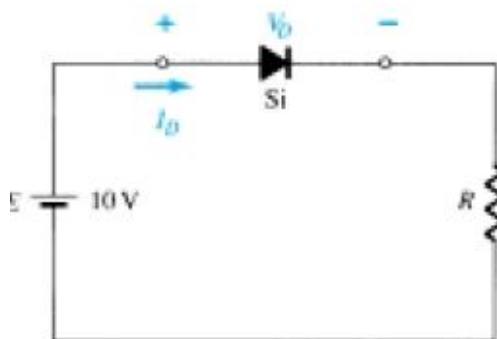

Figure 1
2. For the series diode configuration shown in figure 1 employing the diode characteristics of Figure 2. Determine: (a) V_{DQ} and I_{DQ} . (b) V_R .